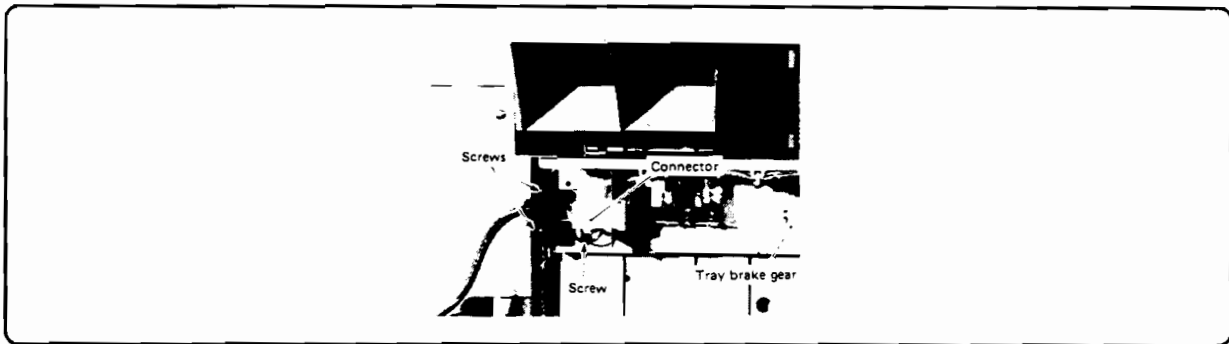

Figure 6-129. Lifter Assembly Removal
2. Unplug the lift control connector and the grounding terminal (Figure 6-129).
5. Actuate the tray brake solenoid (Stacker-SL1) by hand to release the brake. While holding the tray brake released, turn the tray brake gear by hand to lower the main tray (Figure 6-129). (When the main tray is lowered fully to the bottom, the lifter comes loose from the guide and can be removed.)